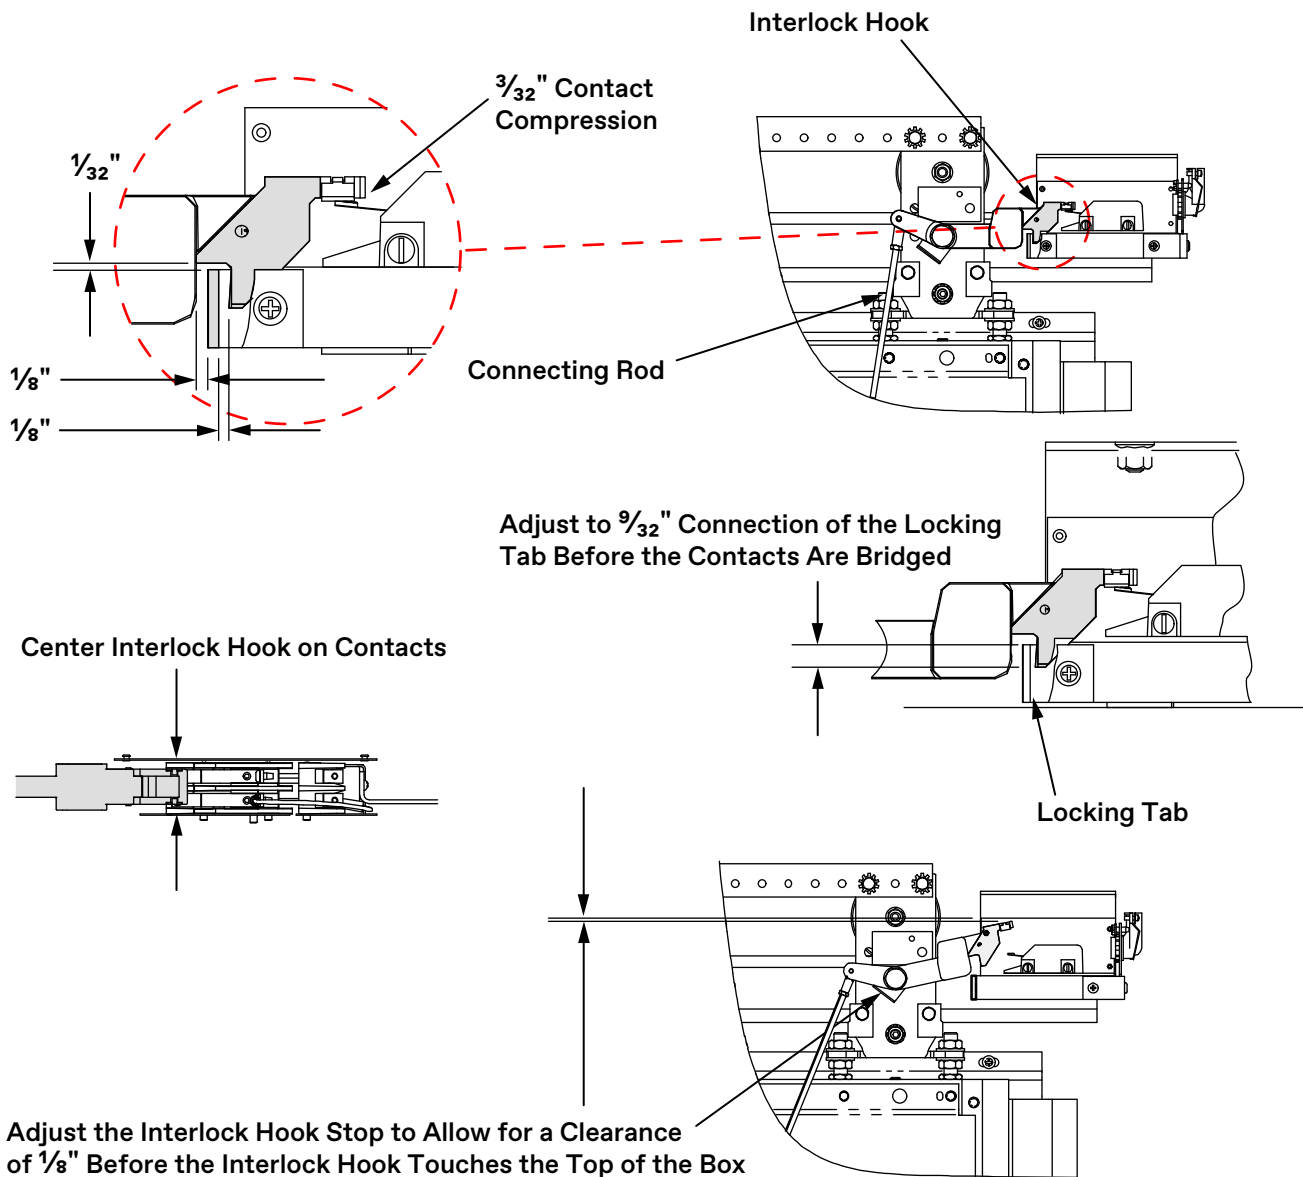

Figure 14 - Interlock Adjustment
1. Install the interlock contact box. Evenly align the cover screws with the face of the header. See Figure 14 on page 25.